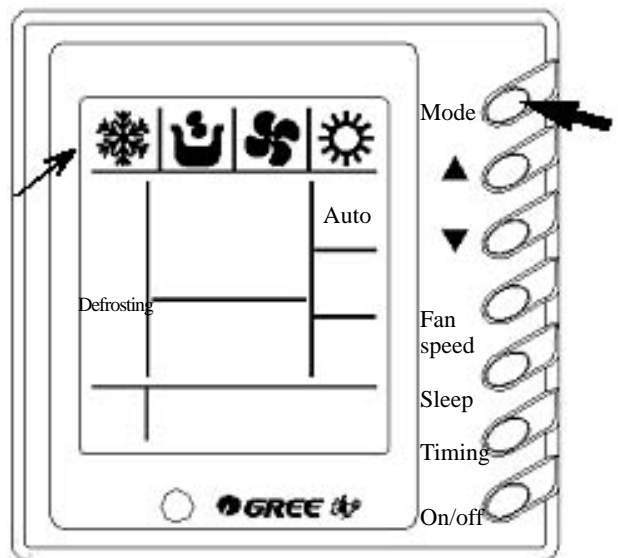

Fig 6
5) The running mode setting (Fig.6)